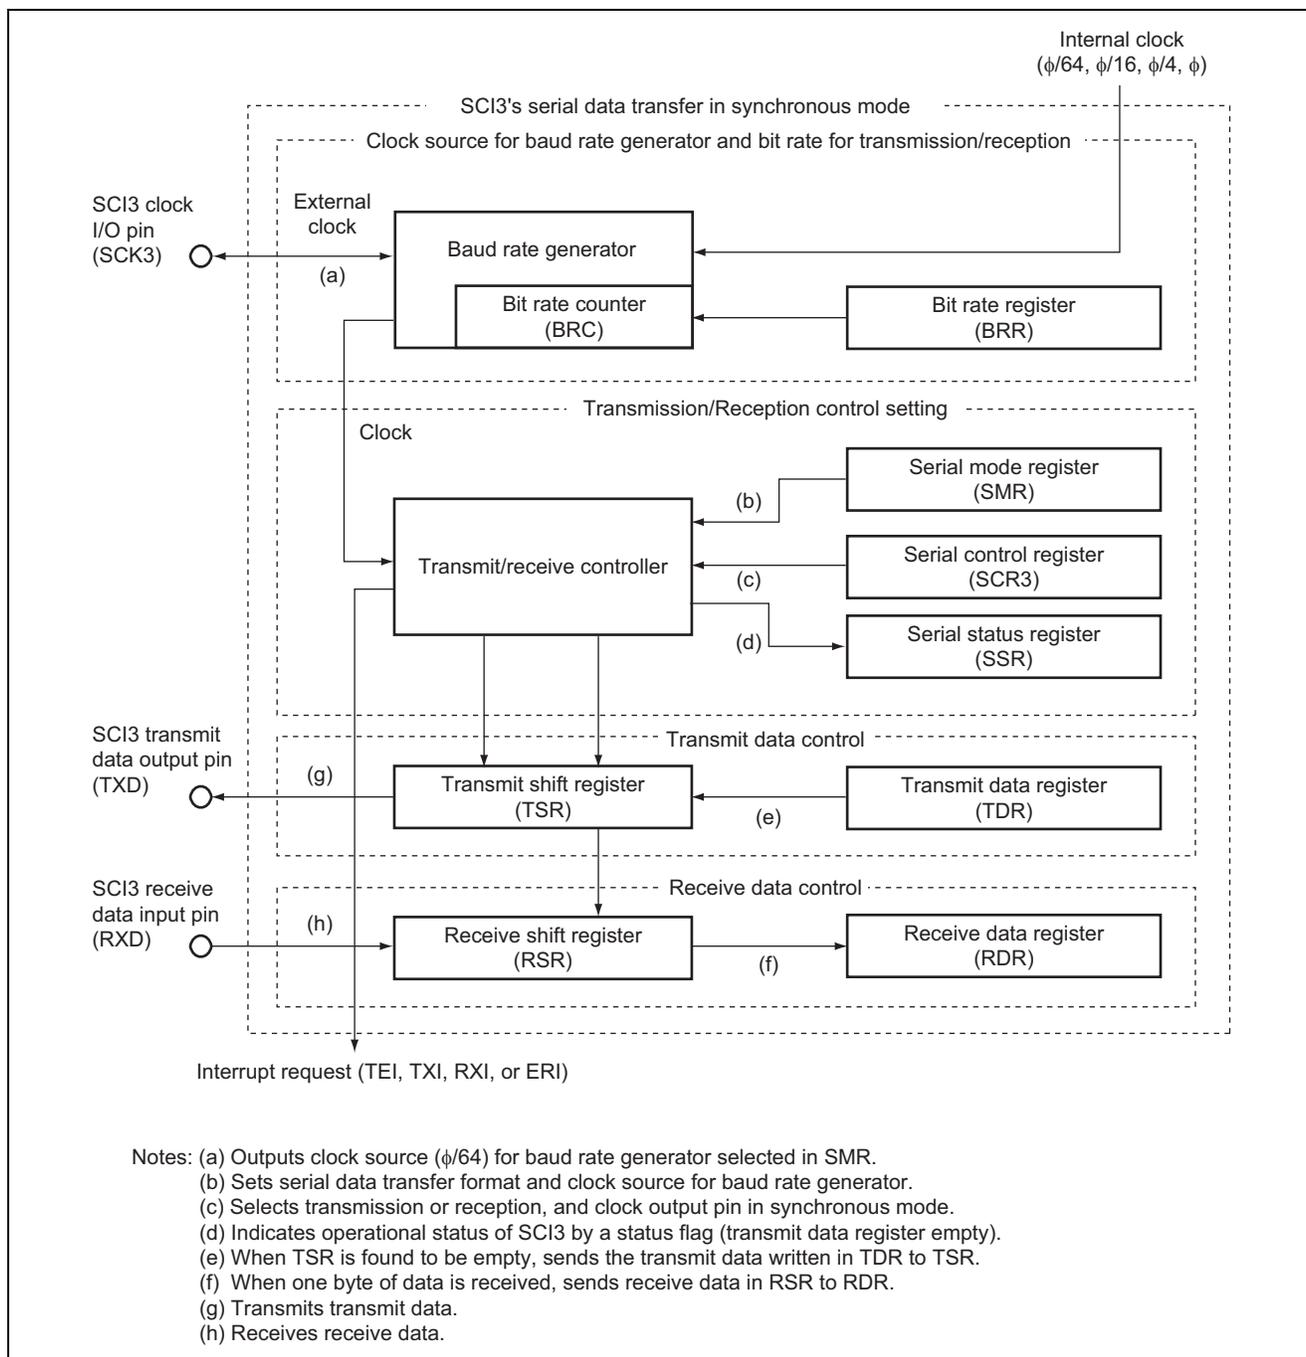

Figure 2 Serial Data Transmission in Synchronous Mode
1. In this sample task, serial data is transmitted in synchronous mode via the serial communication interface (SCI). Figure 2 is a block diagram of serial data transmission in synchronous mode. The elements of the block diagram are described below.